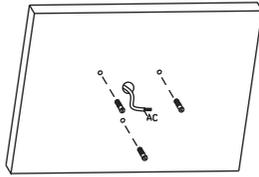

Figure.3
2. Place three dowels provided with the product on the holes. (Fig. 3)